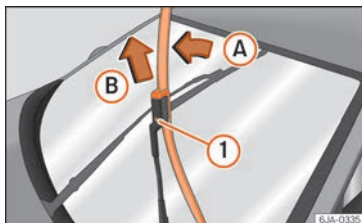

Fig. 70 Windscreen wiper blades.
- Lift the windscreen wiper arm away from the glass moving the blade slightly in the direction of the arm – arrow (A) » » **Fig. 70**.
- Unlock the catch ① with the other hand and remove the blade in the direction of arrow (B).